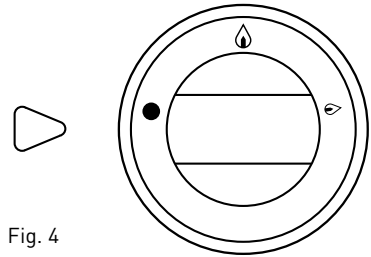

Fig. 4
- When meat roasting is finished, turn the ON/OFF knob of the heater mechanism (3) to "off" position (Figure 4).